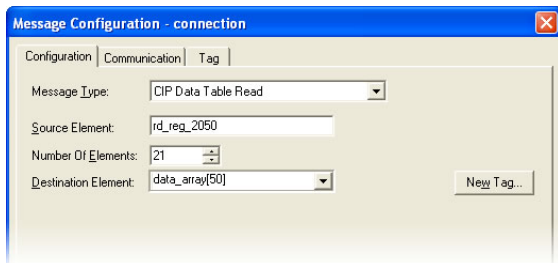

Figure 105: MSG Instruction Configuration
- b) Click the message configuration button ("...") in the MSG instruction. The "Message Configuration" window will open. Refer to Figure 105.